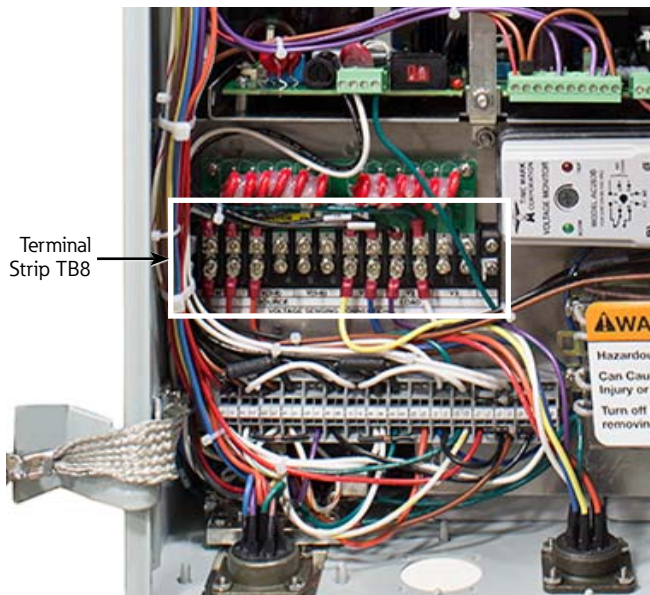
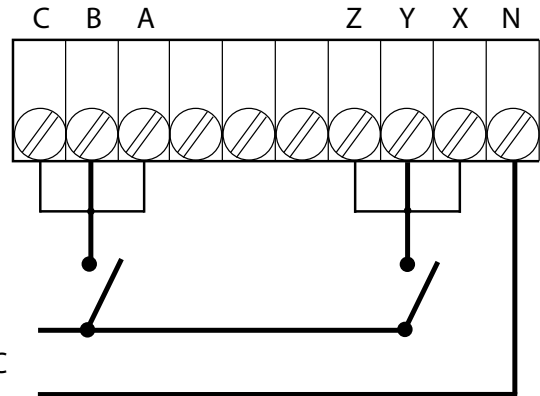

Figure 24. Location of terminal strip TB8 behind rear door of iST control
Figure 25. Connection of AC power to TB8 for initial electrical operation testing of the PST Model-9 unit
2. Connect 120 Vac, 60 Hz power supply to terminals B and Y of Terminal Strip TB8 of the iST control. Connect the grounded side of the power supply to terminal N (**Figure 24** and **Figure 25**).